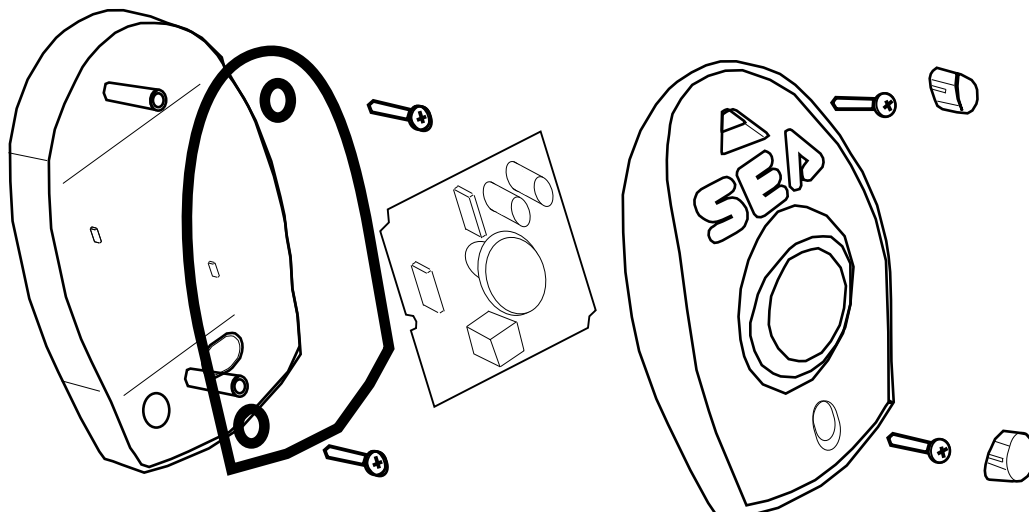

FIG 3.
- Fix the unit as shown in fig.3.